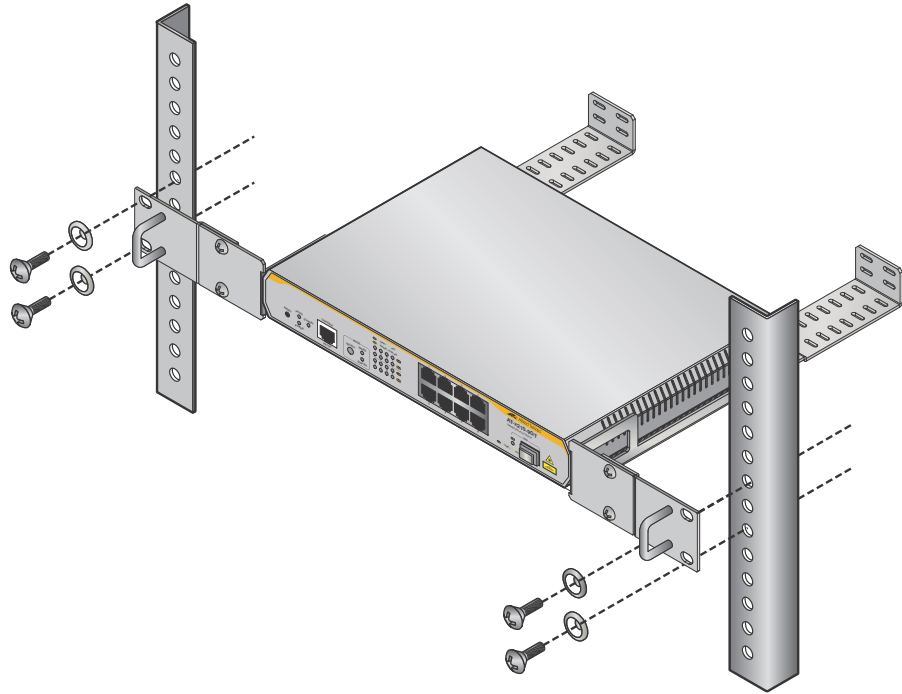

Figure 25. Mounting an AT-x210-9GT Switch in an Equipment Rack
11. Mount an AT-x210-9GT switch in a 19-inch equipment rack using the provided spacer bracket mounts with four equipment rack screws, as shown in Figure 25.